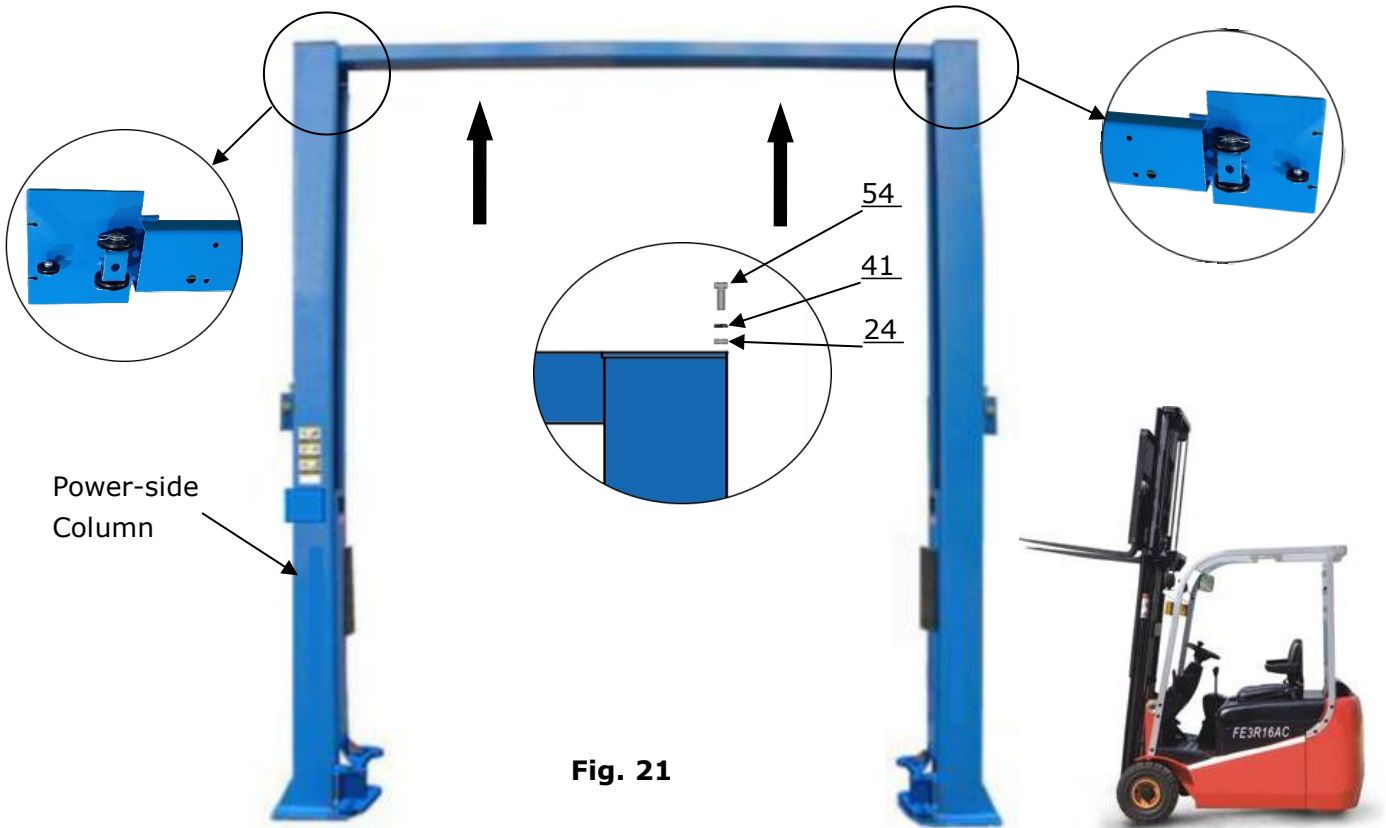

Fig. 21
G. Mounting the top beam by lifting equipment, and attention to distinguish the direction when installing the top beam. (Fig.21)